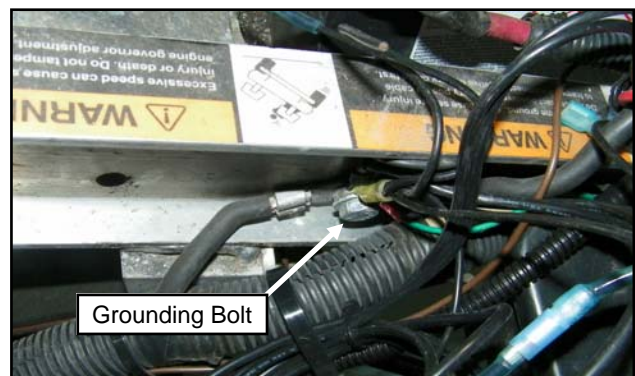

Fig. 5.4 (Install Ground Terminals)
- 5.4 Connect 2 heater ring terminals and ground ring terminal on relay harness to ground bolt on frame of vehicle. Fig. 5.4.